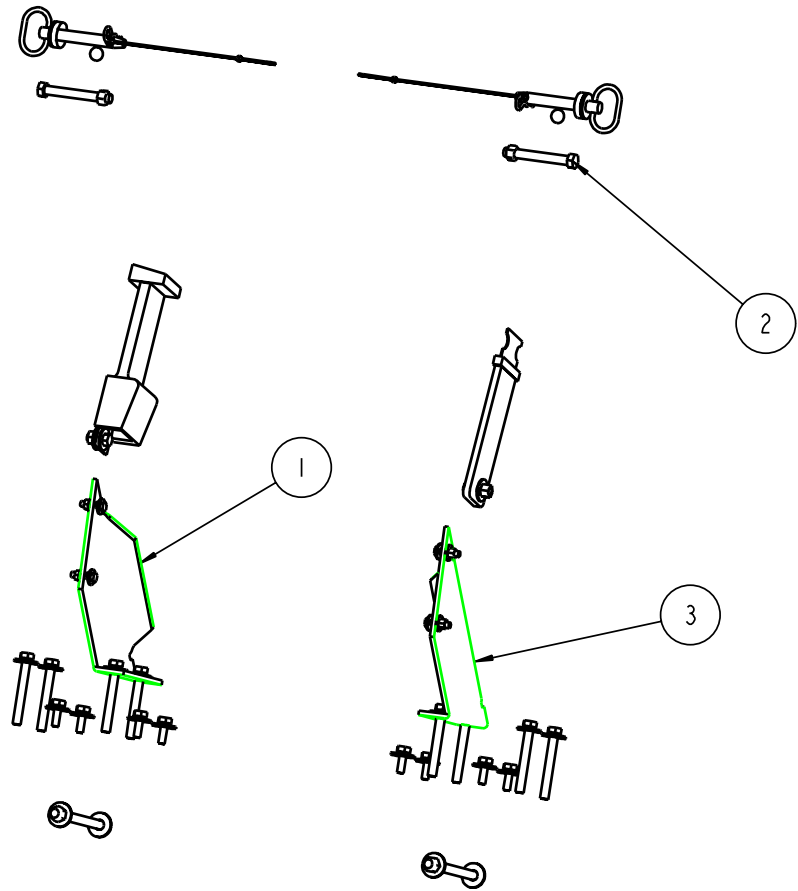

Figure 4
12. Attach seatbelt to seat belt mounts using (2) 7/16" – 13unc X 1" long, (4) 7/16" flat washers and (2) 7/16" – 13unc nylock nut. See Figure 4.